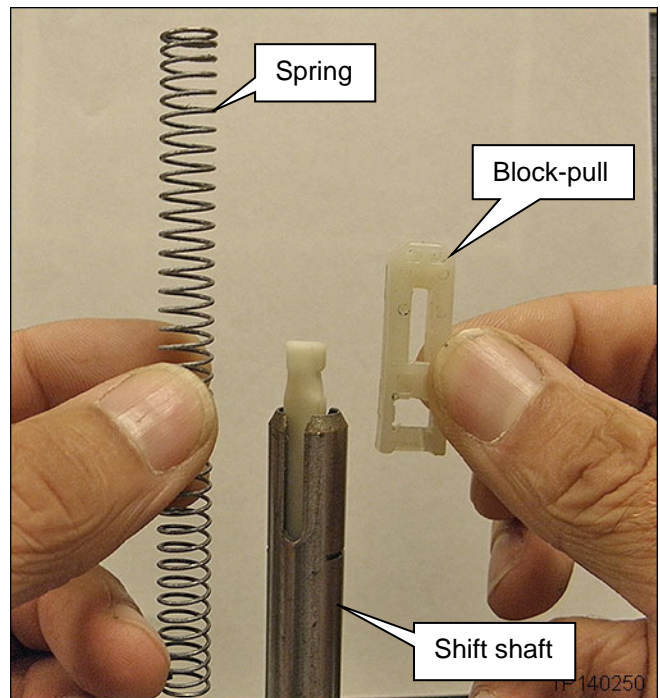

Figure 8
If for any reason the block-pull and spring are removed as shown in Figure 8:
- Figure 8 shows the block-pull and spring removed.